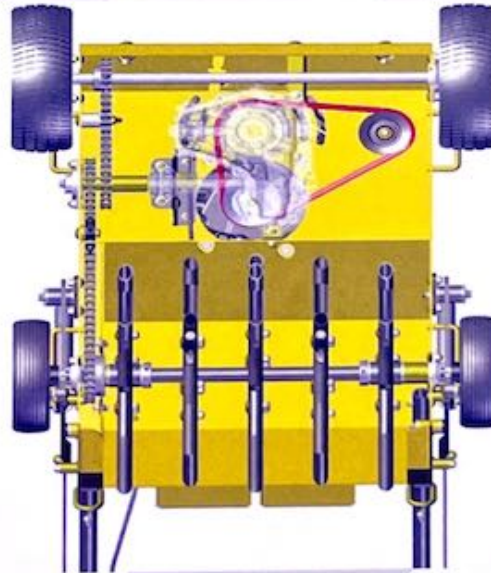

Figure 8
2. Take note of the belt orientation and pathway in figure 8 before removing and discarding the old belt.